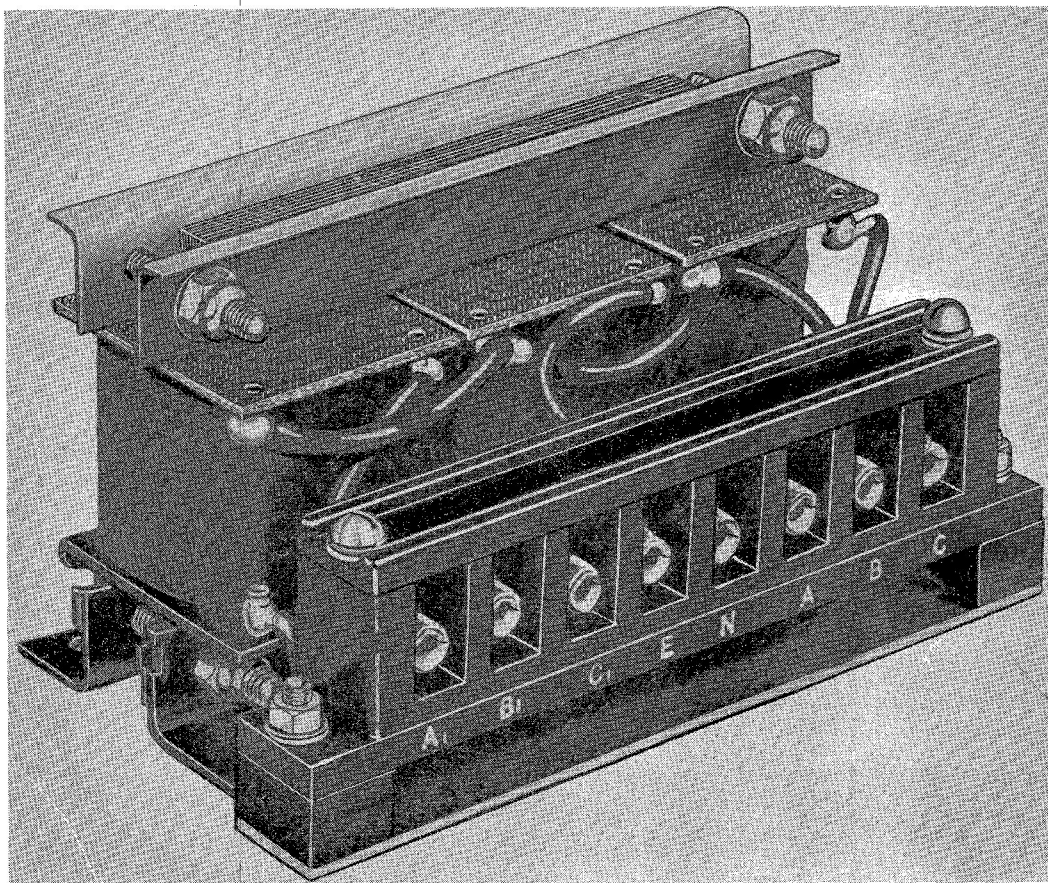

Fig. 1. General view of P2201 transformer
1. The transformer (*fig. 1*) is designed to operate in aircraft where there is a 3-phase, 400 c.p.s. supply voltage of 115 volts.